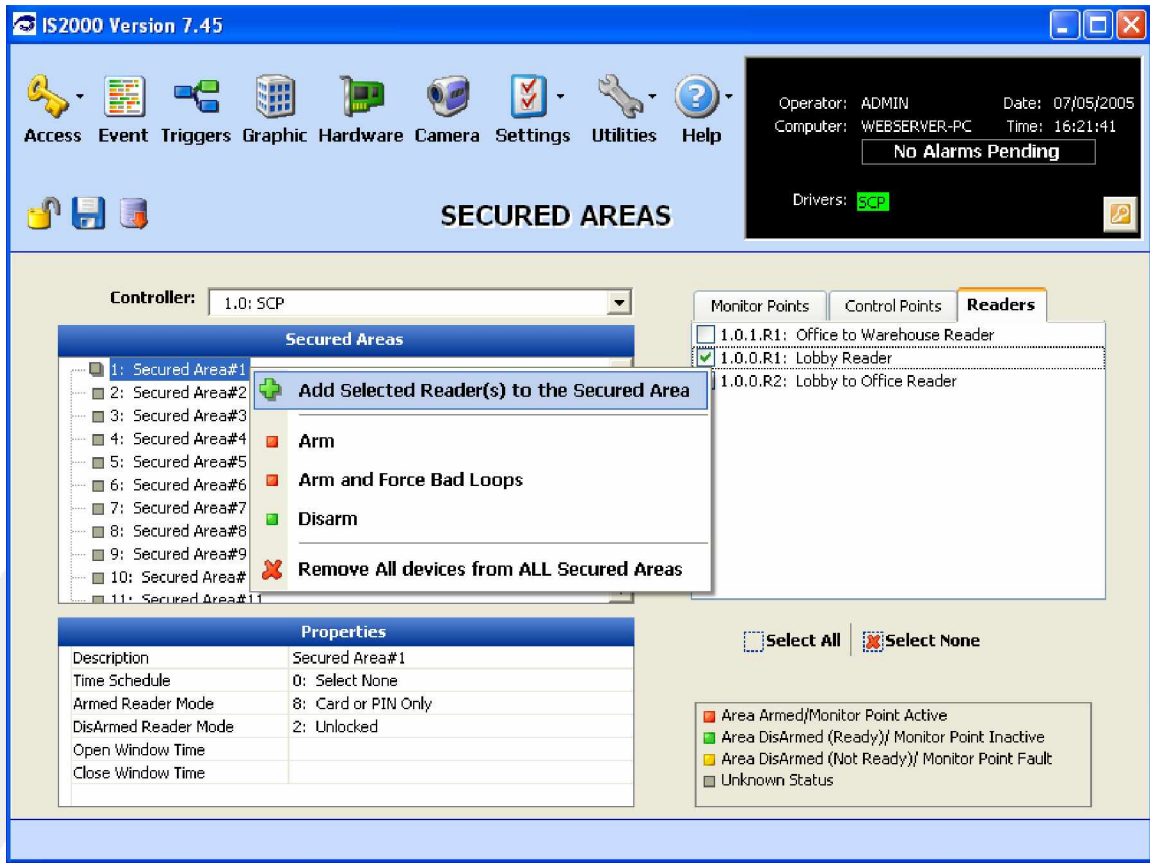

Figure 67 - Add Selected Reader
4. Next, select the reader to be assigned to Secured Area#1. In this example “Lobby Reader” was selected. See Figure 67.
6. Right click Secured Area#1 to bring up the menu as shown in Figure 67.